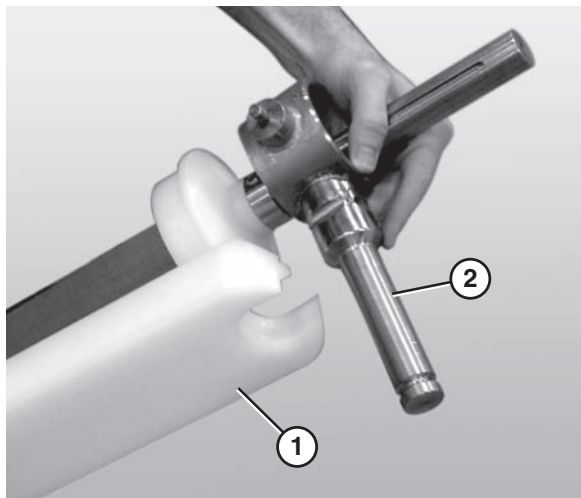

Figure 85
8. Attach the guard bar (**Figure 85, item 1**) to the bearing / motor mount bracket shafts (**Figure 85, item 2**).